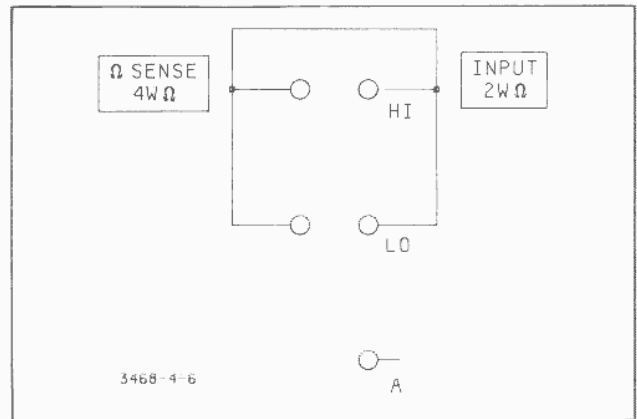
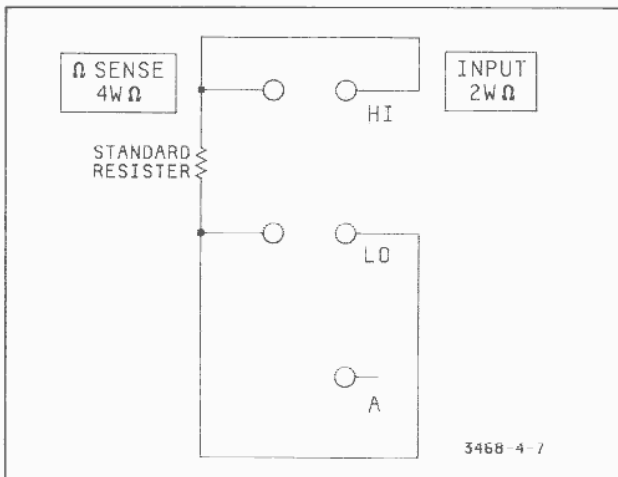

Figure 4-6. 4-Wire Ohms Test Connection
Figure 4-7. 4-Wire Ohms Connections
4-72. If the 3468A is to be tested in the 2-Wire Ohms Function, all test resistors are applied to the 3468A's INPUT Terminals. If the 4-Wire Ohms Function is to be tested, short the INPUT Terminals or connect the test resistors as shown in Figure 4-6 and Figure 4-7, respectively.
- b. (Step #2.) Set the 3468A to the desired Ohms Function (see paragraph 4-70). If the 2-Wire Ohms Function is to be tested, short the INPUT Terminals. If the 4-Wire Ohms Function is to be tested, short the SENSE Terminals and the INPUT Terminals, as shown in Figure 4-6. Check the reading on the 3468A's display and record the reading on the Test Card.
- e. Connect either a 300 Ω or 100 Ω Standard Resistor to the INPUT Terminals (refer to paragraph 4-71 to determine the resistor value). If the 3468A is to be tested in the 2-Wire Ohms Function, connect the resistor to the INPUT Terminals. If the test is to be done in the 4-Wire Ohms Function, connect the resistor as shown in Figure 4-7.